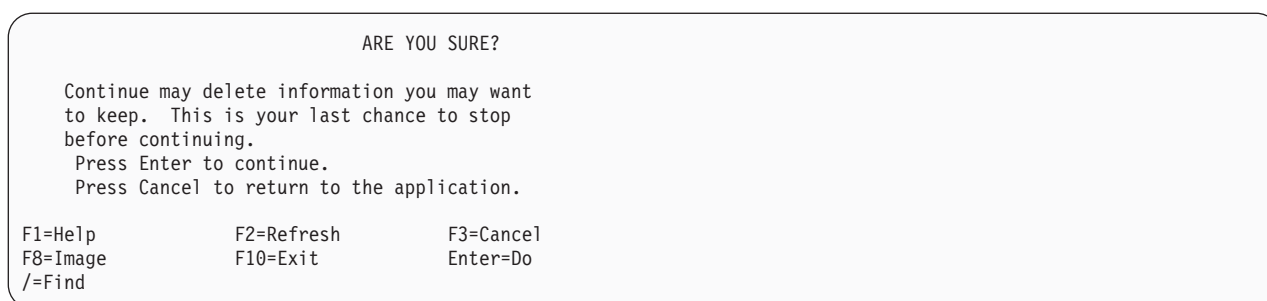

Figure 2-18. Warning Message for Processing AOTM To a Remote Cluster
7. Press **Enter**. You see Figure 2-18 on page 2-18.